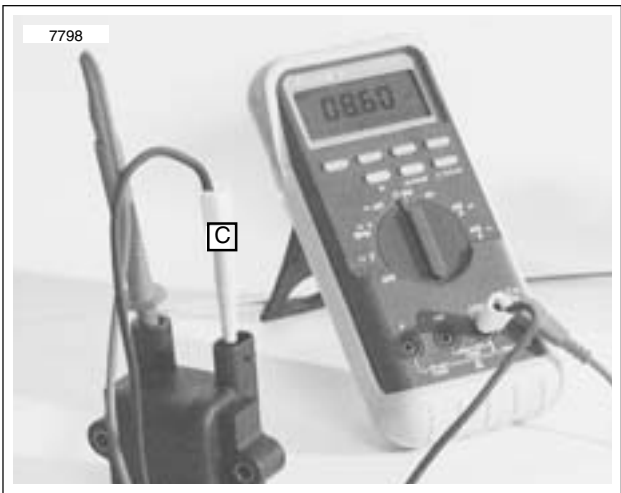

Figure 7-26. Ignition Coil Secondary Resistance Test
3. See Figure 7-26. Using harness connector adaptor kit (HD-41404) gray female probes and patch cord, place multimeter wires on secondary coil windings. See Page 7-7.